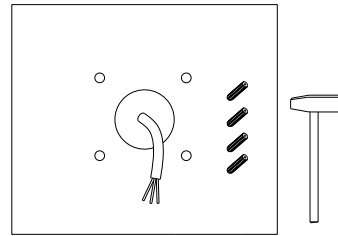

Figure 8
2. Fix rubber plugs into holes. (Figure 8)